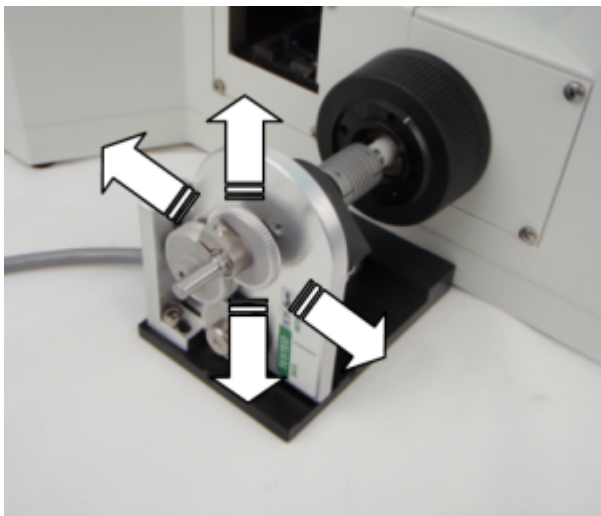

Figure 4a
- a) Slide the motor drive up and down, forward and backward slightly while turning the right fine focus knob until it is in the position where minimum drag is felt on the right focus knob (figure 4a).